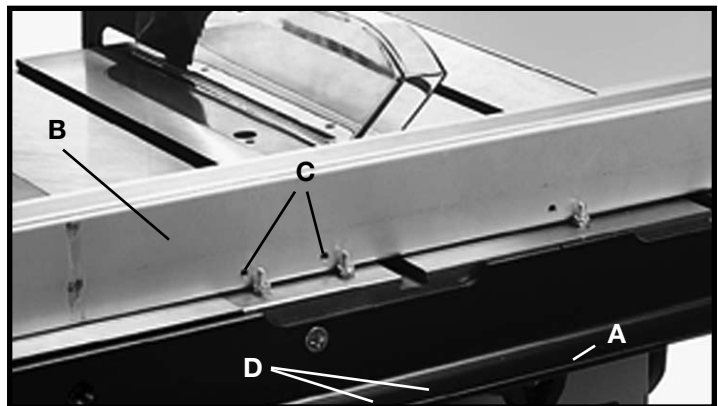

Fig. 88
12. Lay the guide tube (B) Fig. 88, on the saw table as shown, and line up the threaded holes (C) on bottom of guide tube (B) with the through holes (D) on the front rail (A) in seven places.